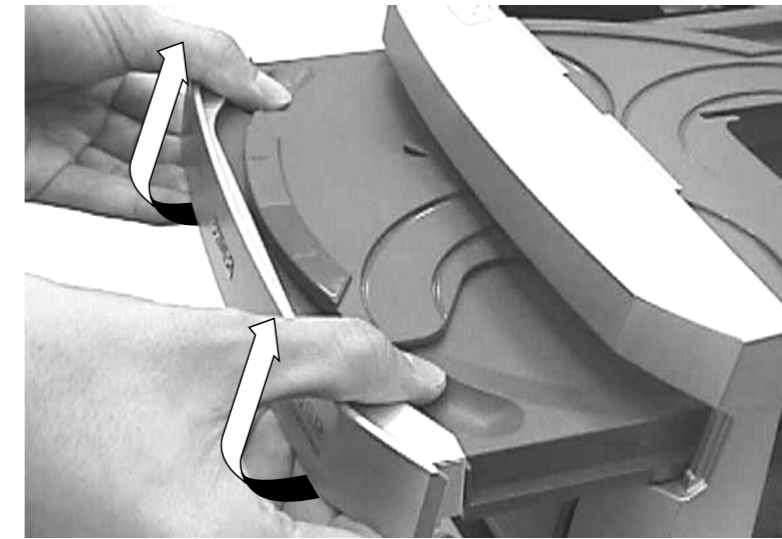

Figure 4
- 3) until the CDC tray starts to move out of the Front Cabinet (pos 8). The CDC tray is now disengage and can be pulled out completely.
- 4) Remove the Cover Tray (pos 29) as shown in figure 4.